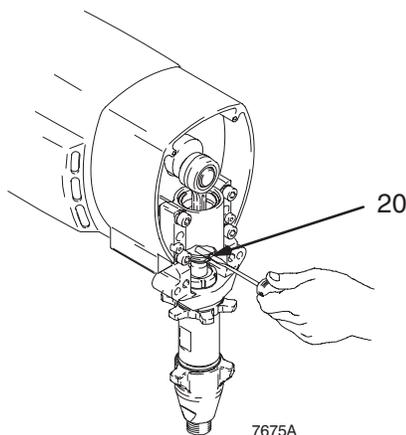

Fig. 17
2. Fig. 17. Push pin (20) into holes.